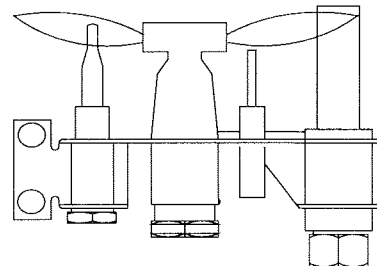

Figure 11. Pilot Burner
- Adjust pilot key to provide properly sized flame. (See figure 11).